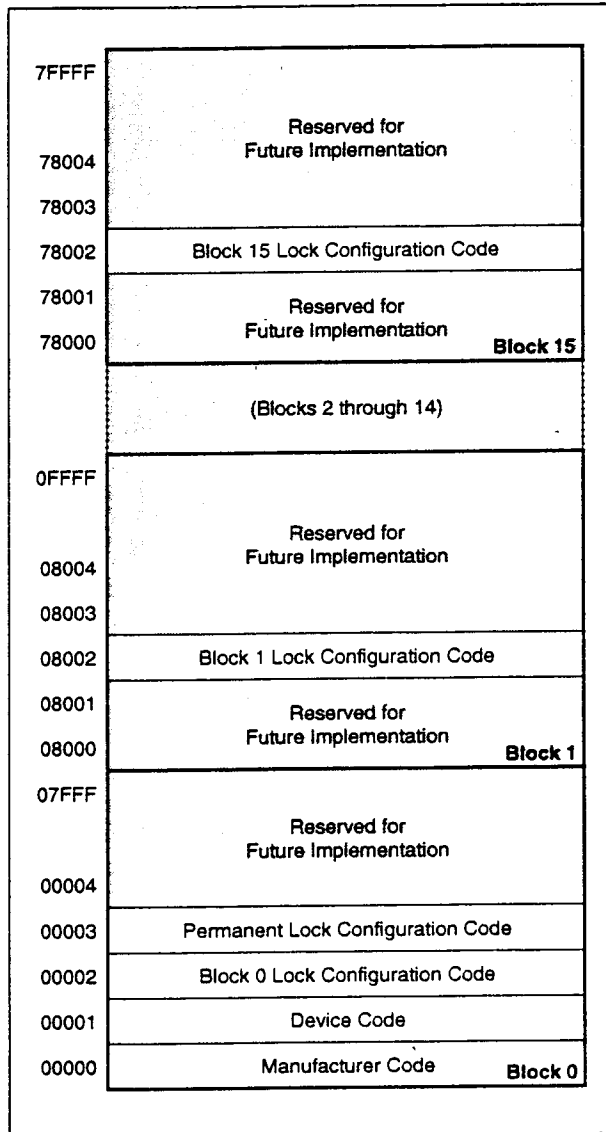

Figure 4. Device Identifier Code Memory Map
The read identifier codes operation outputs the manufacturer code, device code, block lock configuration codes for each block, and the permanent lock configuration code (see Figure 4). Using the manufacturer and device codes, the system CPU can automatically match the device with its proper algorithms. The block lock and permanent lock configuration codes identify locked and unlocked blocks and permanent lock-bit setting.
IA = Identifier Code Address: see Figure 4.
The identifier code operation is initiated by writing the Read Identifier Codes command. Following the command write, read cycles from addresses shown in Figure 4 retrieve the manufacture, device, block lock configuration and permanent lock configuration codes (see Table 5 for identifier code values). To terminate the operation, write another valid command. Like the Read Array command, the Read Identifier Codes command functions independently of the V_{pp} voltage and RP# can be V_{IH} or V_{HH} . Following the Read Identifier Codes command, the following information can be read:
1. X selects the specific block lock configuration code to be read. See Figure 4 for the device identifier code memory map.